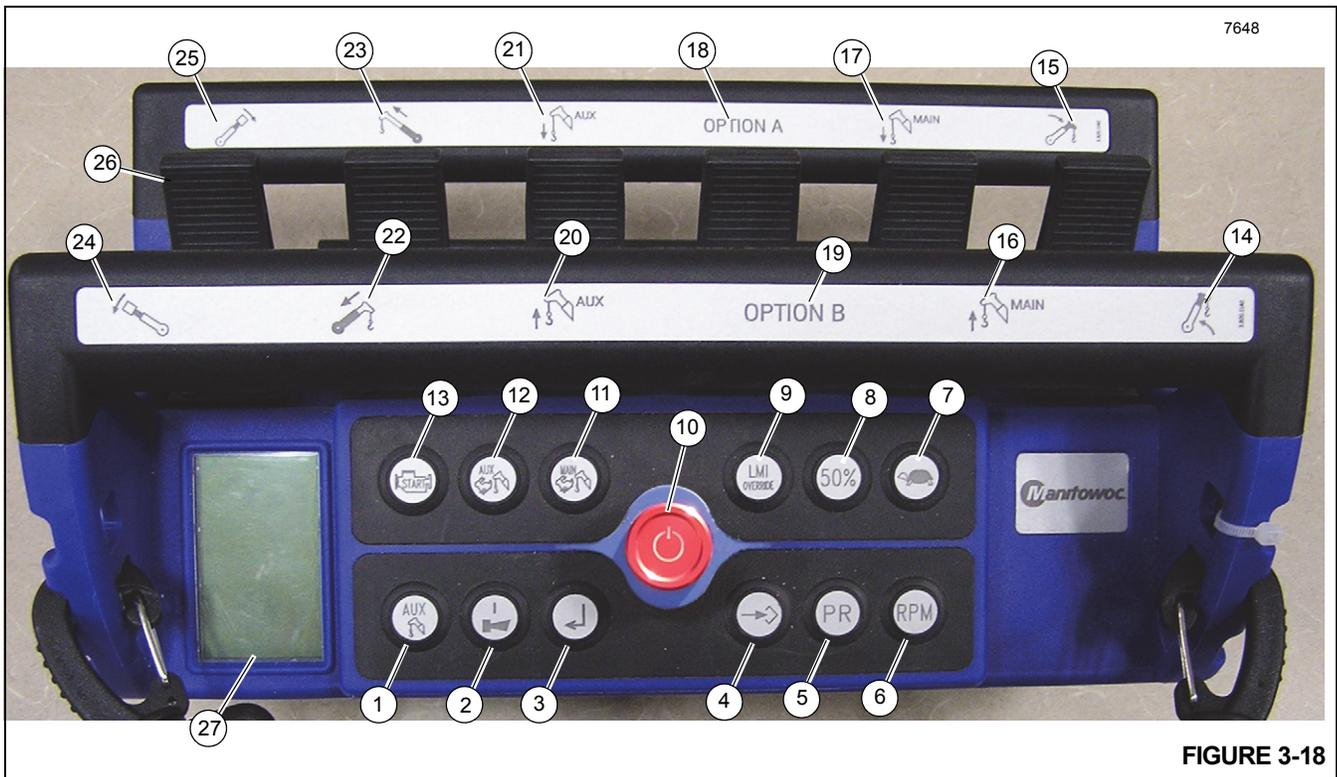

FIGURE 3-18
The optional Crane Remote Control (Figure 3-18) will allow full remote control of the crane. The standard Remote Control is disabled when using the optional Crane Remote Control.
The LCD Screen (27, Figure 3-18 and Figure 3-19) on the display is used to communicate signal strength, battery level, wireless channel, remote status, and the configuration of the machine based upon which buttons are depressed. RCL information is also displayed to the operator and can be toggled by pressing the Toggle Crane RCL Screen button (3). The following RCL information is available to the operator on the LCD screen:
To use this remote, the red STOP button (10, Figure 3-18) must be pressed to turn ON the transmitter. To control the crane, the ON/Horn button (2) must be pressed to activate the remote. The crane horn will sound as confirmation that the remote is now active. The crane can now be started by pressing and holding the Engine Start button (13). The remote can now be used to control the crane. To activate a function move the joystick (26) that corresponds to the desired movement.
1. To use this remote, the red STOP button (10, Figure 3-18) must be activated to turn on the transmitter.
2. Press the ON/Horn button (2) to activate the remote. The crane horn will sound as confirmation that the remote is now active.
3. Press and hold the Engine Start button (13) to start the crane. The remote can now be used to control the crane.
4. Move the joystick (26) that corresponds to the desired movement to activate desired function.
5. Press the red STOP button (10) when finished with the remote. This will shut off the crane.